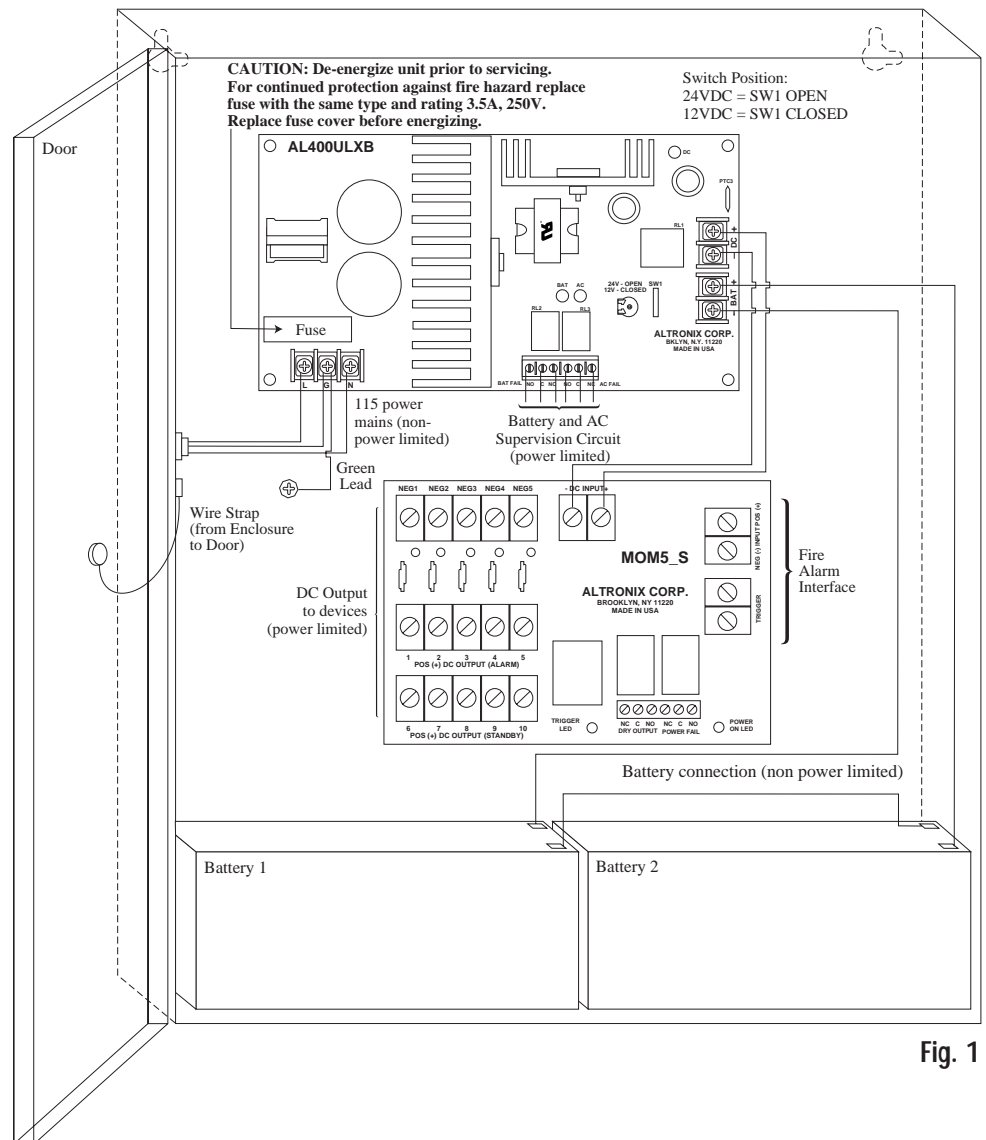

Fig. 1
3. Connect AC power (115VAC 50/60Hz) to terminals marked [L, G, N] (Fig. 1, pg. 3). Use 18 AWG or larger for all power connections (Battery, DC output, AC input).
4. Connect fail-secure type locking hardware (e.g. door strikes and electronic dead bolts) positive leads to terminals marked [1 thru 5 POS (+) DC OUTPUT (ALARM)] (Fig. 1, pg. 3) and the negative leads to terminals marked [NEG 1 thru NEG 5] (Fig. 1, pg. 3).
5. Connect fail-safe type locking hardware (e.g. mag locks, door strikes and door holders) positive leads to terminals marked [6 thru 10 POS (+) DC OUTPUT (STAND-BY)] (Fig. A, pg. 3) and negative leads to terminals marked [NEG 1 thru NEG 5] (Fig. 1, pg. 3).
6. To trigger the AL400ULM from a FACP connect signaling circuit of FACP to inputs marked [NEG (-)] and [POS (+)] input (Fig. 1, pg. 3). Polarity is shown in alarm condition.
8. Connect auxiliary devices triggered by the AL400ULM to the terminals marked [DRY OUTPUT N.O. & C] for normally open output or terminals marked [DRY OUTPUT N.C. & C] for normally closed output (Fig. 1, pg. 3).
9. For Access Control applications batteries are optional. When batteries are not used a loss of AC will result in the loss of output voltage. Batteries must be lead acid or gel type if used. Connect one (1) 12VDC battery to terminals marked [+ BAT -] (Fig. 1, pg. 3) for 12VDC operation. Use two (2) 12VDC batteries connected in series for 24VDC operation. (Battery leads included).
10. Connect supervisory trouble reporting devices to outputs marked [AC FAIL, LOW BAT] (Fig. 1, pg. 3) and [Power Fail] (Fig. 1, pg. 3) supervisory relay outputs marked [N.C., C, N.O.]. Use 22 AWG to 18 AWG for AC Fail & Low Battery reporting. AC Failure will report in 5 minutes.